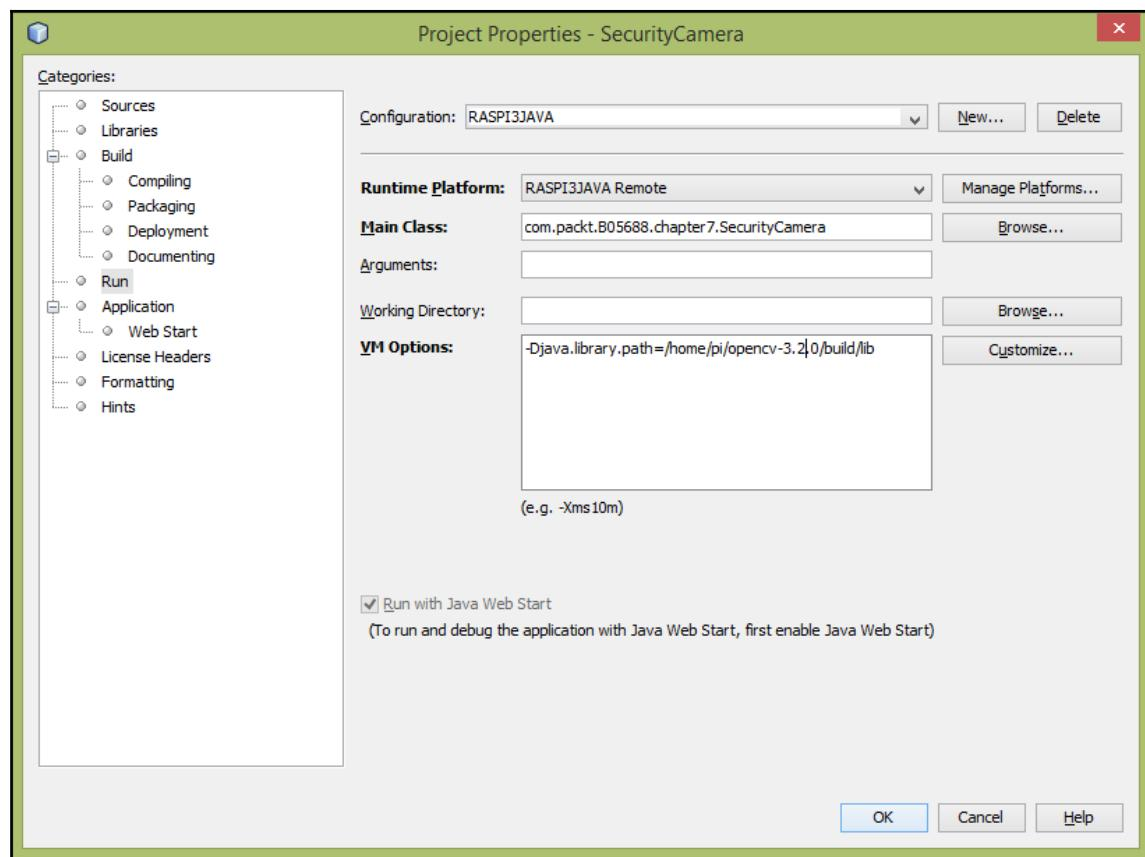

Figure 7-15: Project Properties - Security Camera
2. Right-click on the SecurityCamera node in the *project explorer*, then from the context menu, click **Properties**. In the **Project Properties** dialog box of the SecurityCamera project, click the **Run** node (Figure 7-15):